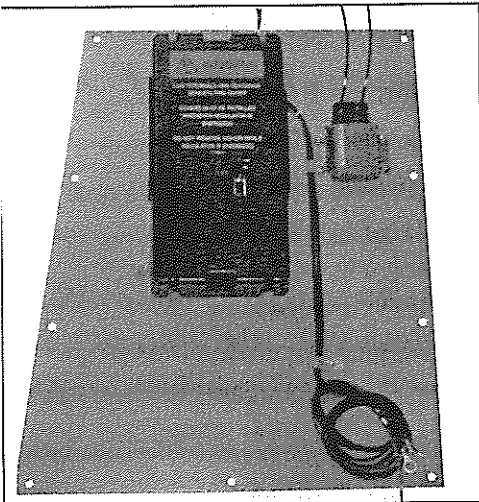

Figure 6-4
1. Note the location and markings (remark as required) and remove connections from voltage regulator, capacitor, and any other conduit box mounted control (figures 6-4 and 6-5).